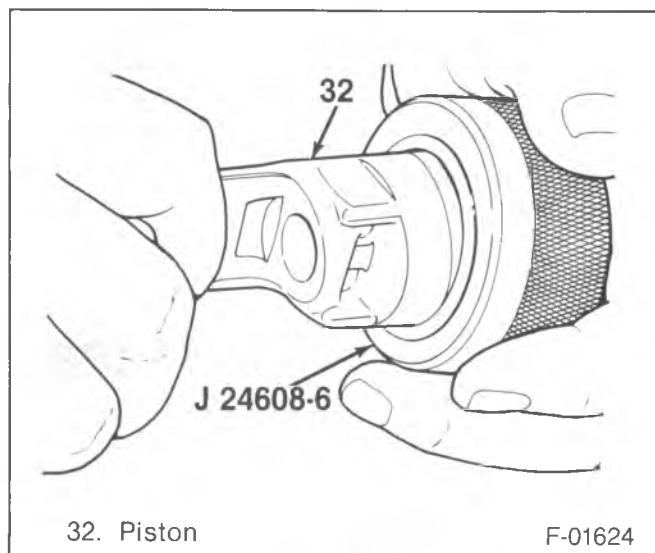

Figure 38—Sizing the Piston Ring
- J 24608-5 (installer) will keep the J 24608-2 (guide) inside when the piston ring is installed on the piston (32).
- Remove the guide from the installer and do not store the guide in the installer because the seal will be stretched and weakened during storage. This can cause the seal not to hold the ring installer segments tight enough to the J 24608-2 (guide) when installing the piston ring (33) to the piston (32).
4. Piston (32) to J 24608-6 (figure 38).
- Lubricate the piston ring (33) area with 525 viscosity refrigerant oil.
- Rotate the piston (32) and ring (33) into J 24608-6 at a slight angle until the piston is inserted against the center stop of J 24608-6.